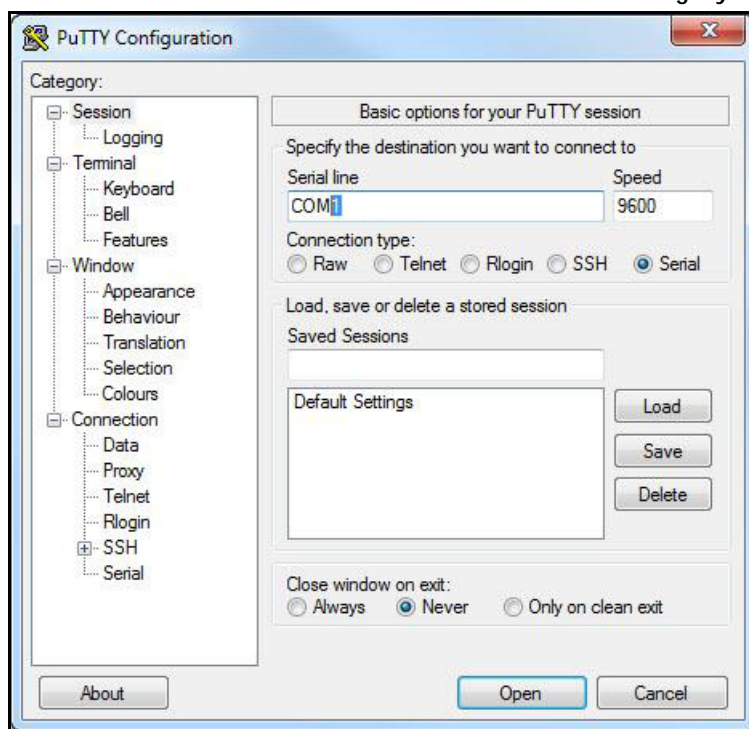

Figure 7. PuTTY Session Options Dialog Box
5. Under Basic Options→Connection Type, click Serial. Default or last-used values will appear in the Serial line and Speed fields. See Figure 7.